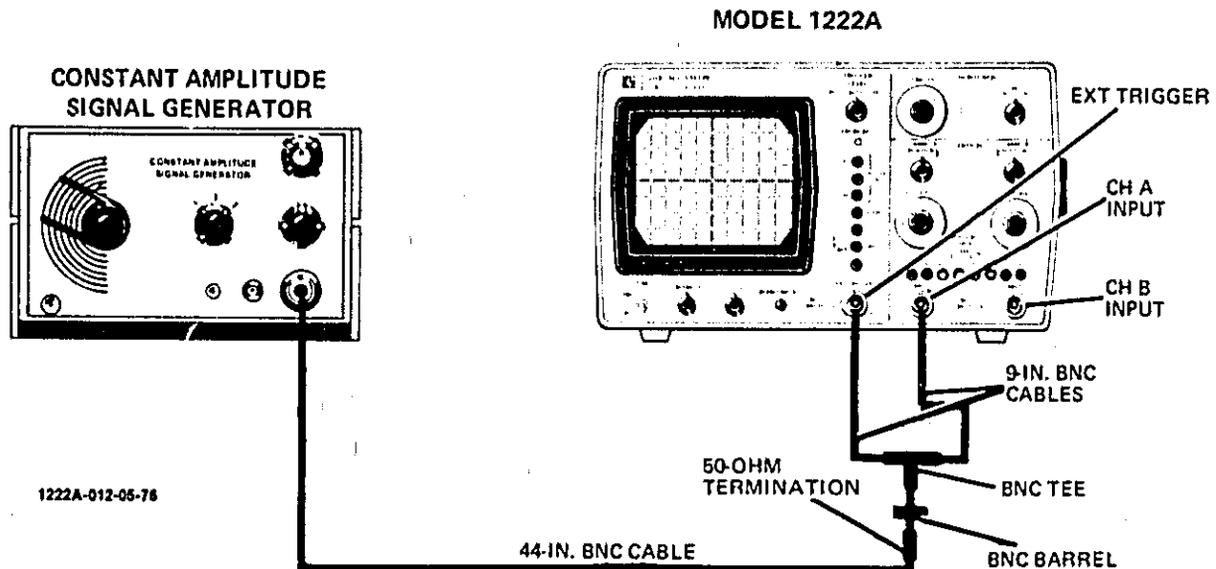

Figure 5-4. HF Triggering Test Setup
- a. Connect equipment as shown in figure 5-4.